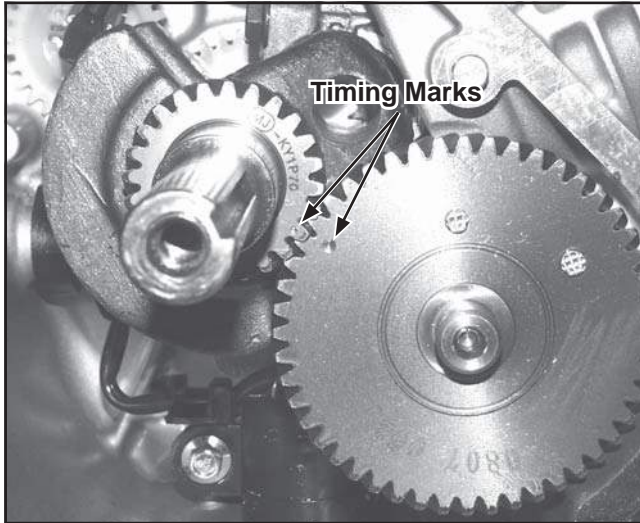

**Figure 11-28. Tappet Installation.**
1. Lubricate the face and stem of each tappet with engine oil. Install each into their respective bores. See Figure 11-28.